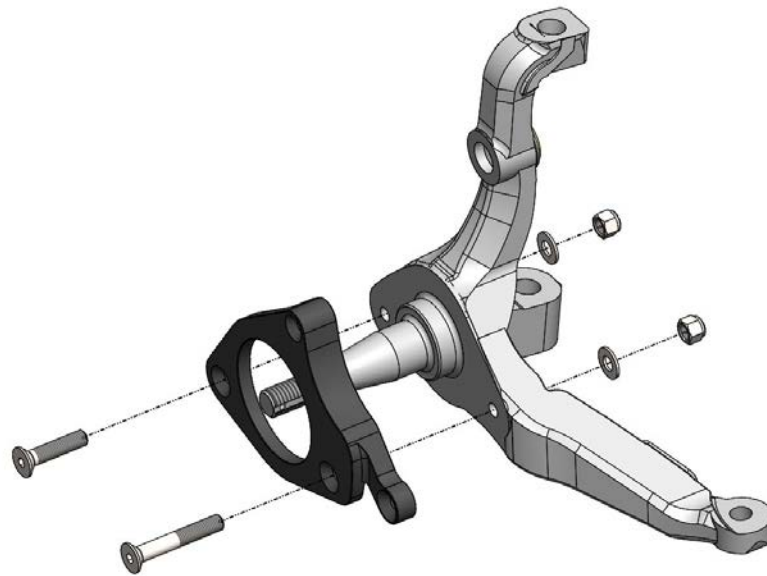

Figure 1 – Base Caliper Bracket Installation
4. Place the Aluminum Caliper Mounting Bracket on the spindle. **NOTE:** The brackets are left and right specific. The caliper mounts on the tie rod end side of the spindle. Use a 3/8"-24 x 2.250" Flat Head Cap Screw in the mounting hole on the tie rod side of the spindle. In the opposite hole, use a 3/8"-24 x 1.750" Flat Head Cap Screw. Use two 3/8" SAE Flatwashers and two 3/8"-24 Nyloc Lock nuts and snug only at this time. Figure 1 on the following page shows the aluminum bracket installation.